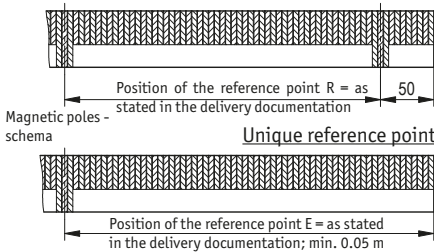

Fig. 6: Definition of the counting direction with magnetic strip and assemblage sensor/magnetic ring, gap measure, tolerances
- **Observe the correct alignment with regard to the counting direction (fig. 6 and 7).** This does not apply if the counting direction can be reversed in the electronic interpretation (e. g. in SIKO's magnetic-strip displays).